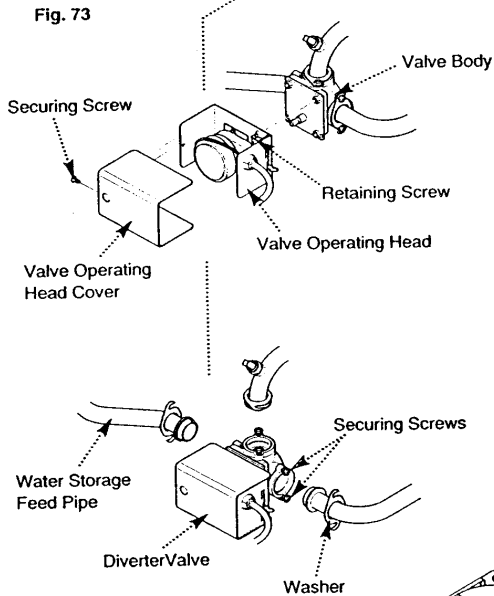

Fig. 74
**11.16 Diverter Valve - Complete (Fig. 74)**